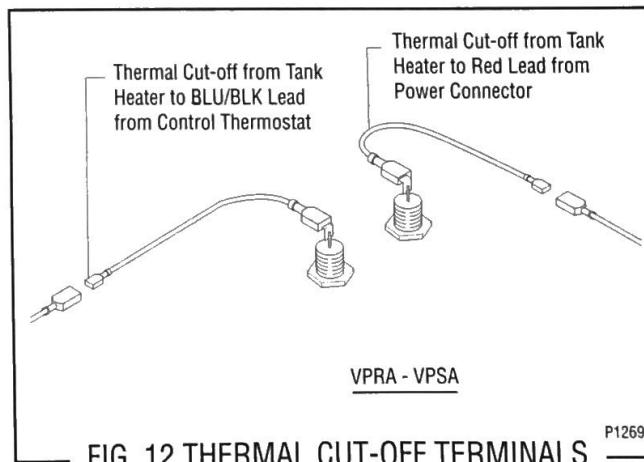

FIG. 12 THERMAL CUT-OFF TERMINALS
3. Refer to Fig. 12 when reconnecting wires.